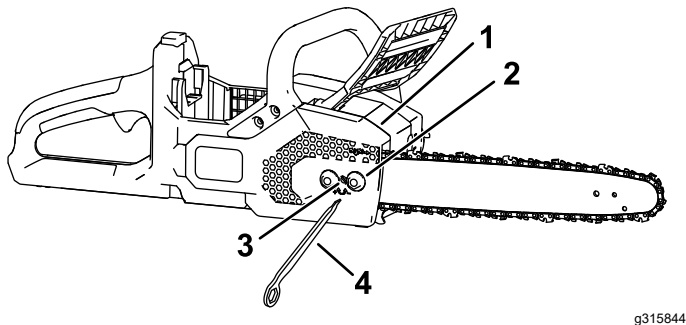

Figure 30
5. Using the onboard multitool, loosen the captive nuts on the side cover, but do not remove it (Figure 30).
7. Using the onboard multitool, adjust the chain tension, and then secure the side cover to the chain saw by tightening the captive nuts (Figure 30).
2. Remove the side cover by loosening the 2 captive nuts that secure the cover (Figure 30).
3. Loosen the chain by turning the chain-tightening screw counterclockwise (Figure 30).